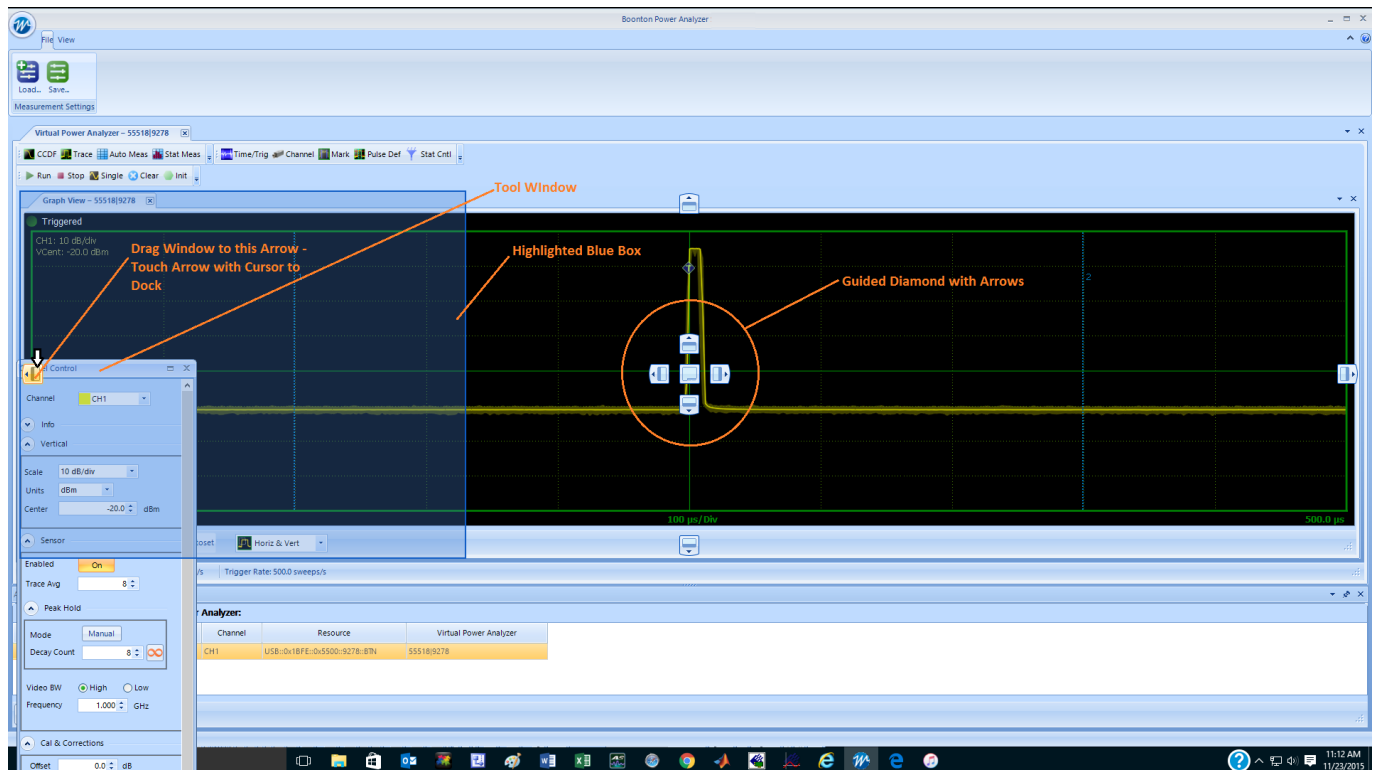

Figure 3.4 Docking a sidebar to the left side of the display
**NOTE:** Each of the tool windows is highlighted as a rectangular box to be positioned by dragging in any direction within the main window. Figure 3.4 is one example, but you can always rearrange these tool windows as you prefer to see them within your main software window.